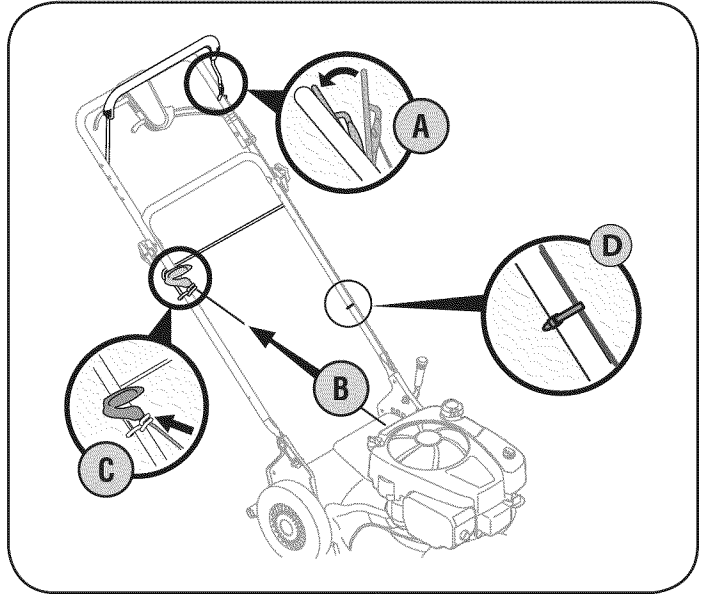

Figure 3
3. The rope guide, which is connected to the support rod, is located on the right side of the lower handle. See Figure 3 below.